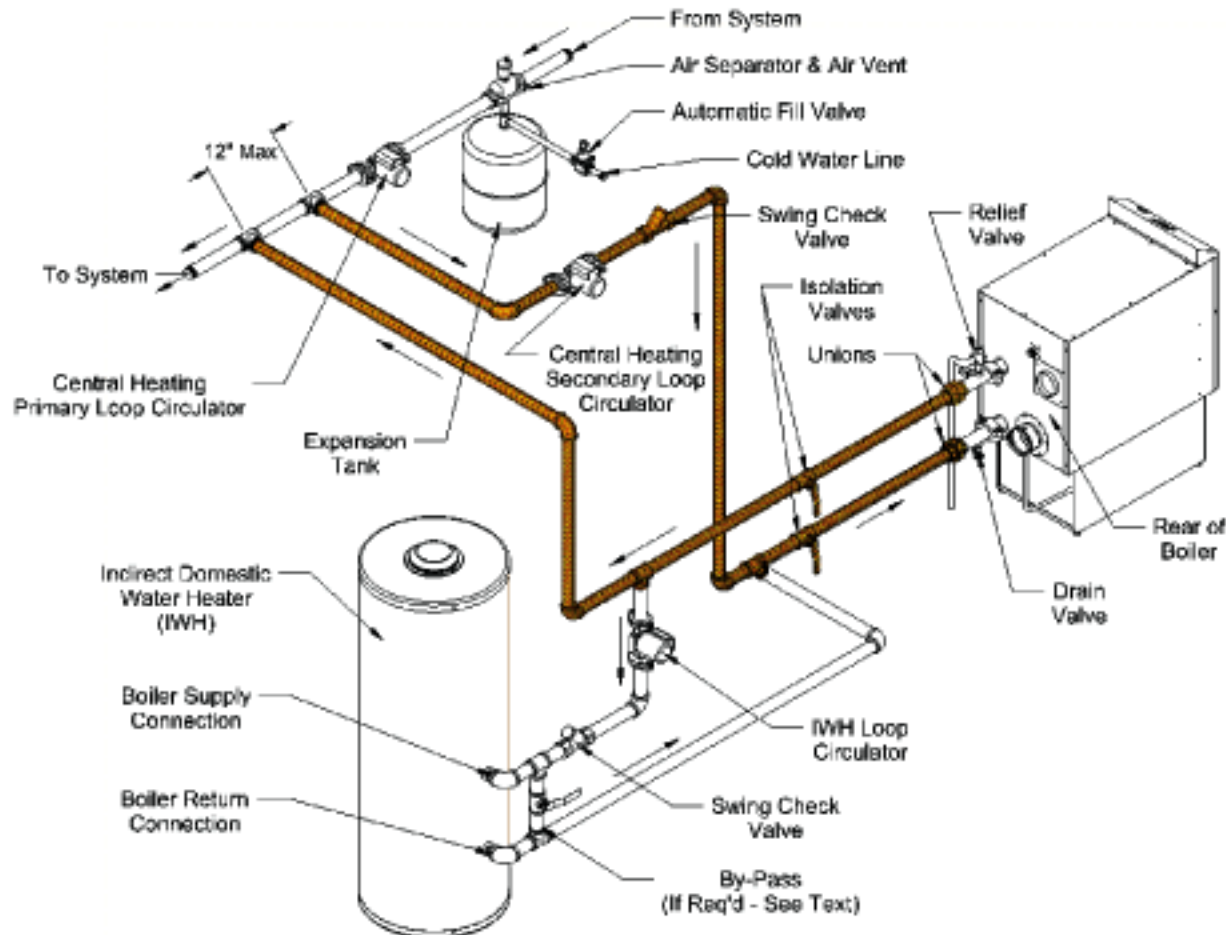

Figure 8.4a: Piping Method #1 - Secondary Loop Piping (Shaded)
- 2) **Secondary Loop ("Boiler Loop") Piping** - The secondary (or "boiler loop") piping is shown shaded in figure 8.4a. All piping in this loop must be the size shown for the boiler in Table 8.5, column (a). To size the circulator for this loop: